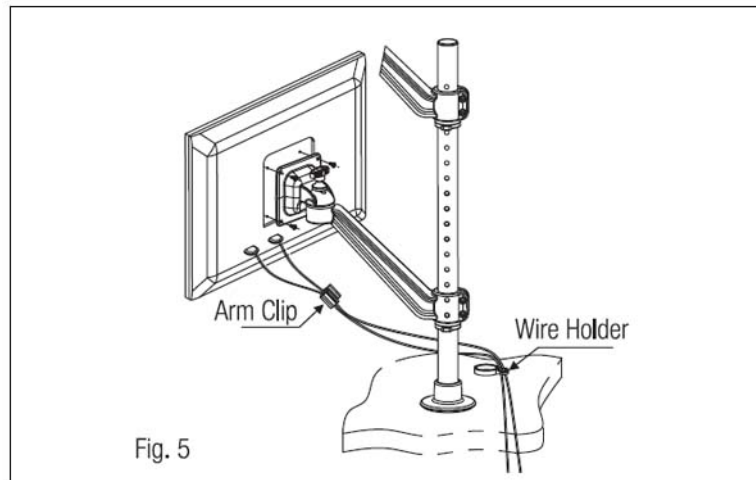

Fig. 5
- Screw the flat screens to the hanging bracket with M4 screws provided as shown in Fig. 5.